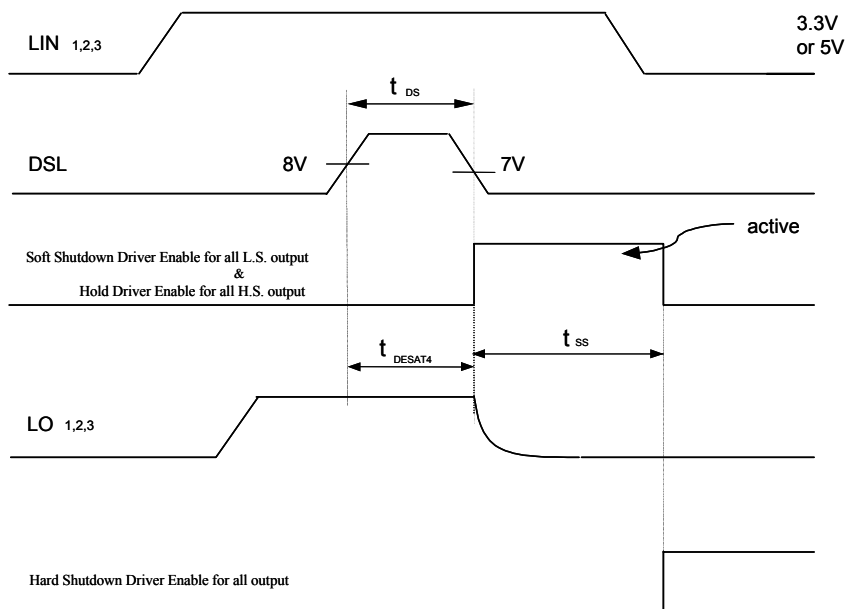

Figure 6.1 Low Side Desat Soft Shutdown Timing Waveform
- LD1- Low side soft shutdown is initiated locally in an event over current, which is sensed by the DSL pin. It is followed by the synchronized soft shutdown of the rest of the low side outputs; meanwhile it will hold all input information for a period of t_{ss} until the soft shutdown finishes. Then the hard shutdown will be initiated to complete the shut down cycle. (Figure 6.1)